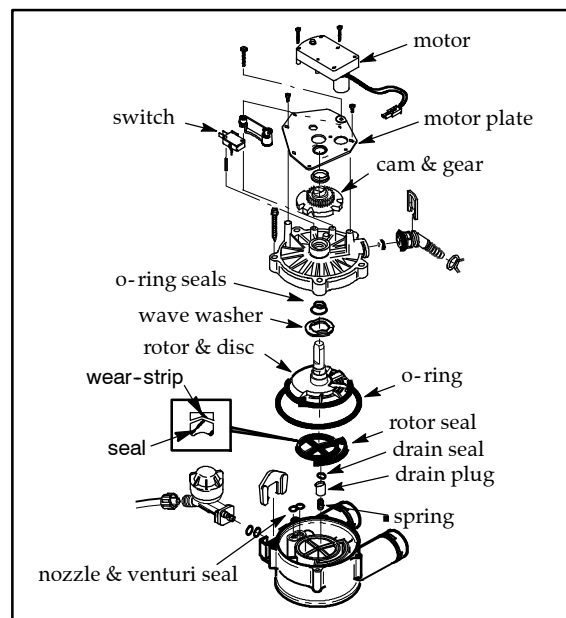

Figure 2
5. Install rotor seal, place the seal into the valve groove, rounded side down (**see cross section in Figure 2**). Apply a light coating of silicone grease to the seals' crossing ribs. Then carefully center the wear strip on the seal, and push it down onto the seal.
11. Lubricate the gear on the motor and the cam & gear with Molycote grease or other high quality gear lubricant. Be sure to orient the switch as **shown in Figure 2**, with the lever toward the cam.